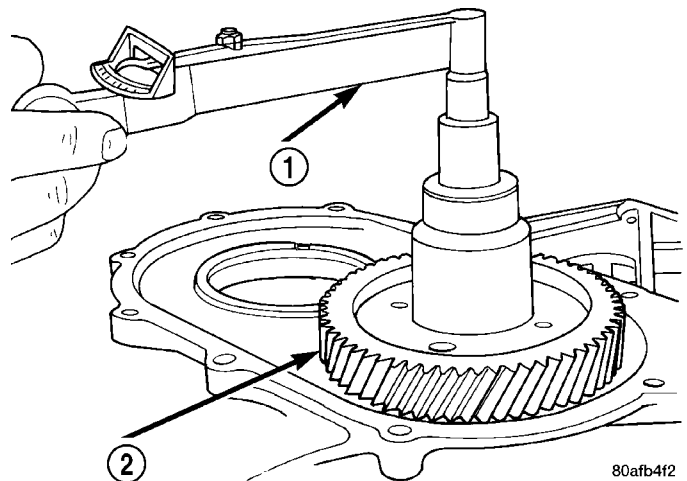

Fig. 105 Check Output Gear Bearings Turning Torque
(17) Using an inch pound torque wrench (Fig. 105), check output shaft turning torque. **Output shaft turning torque should be within 3-8 in. lbs.** If the turning torque is too high, install a 0.04 mm (0.0016 in.) thicker shim. If the turning torque is too low, install a 0.04 mm (0.0016 in.) thinner shim. Repeat until the proper turning torque of 3-8 in. lbs. is obtained.